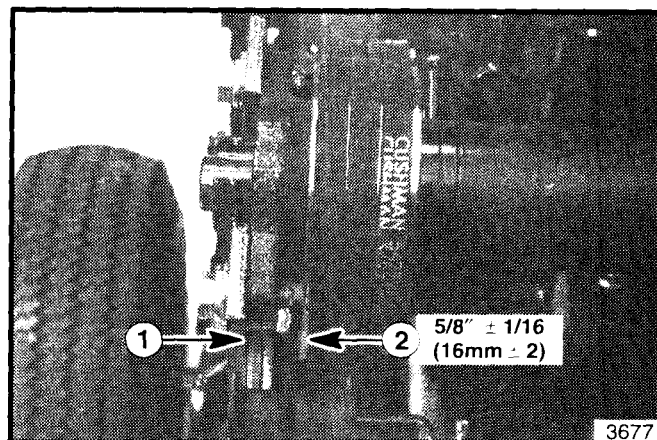

Figure 18. Reel Belt Pulley Alignment
13. Check the reel belt pulley alignment (see figure 18). If adjustment is required, loosen the set screw in the pulley and move the pulley in or out on the shaft.